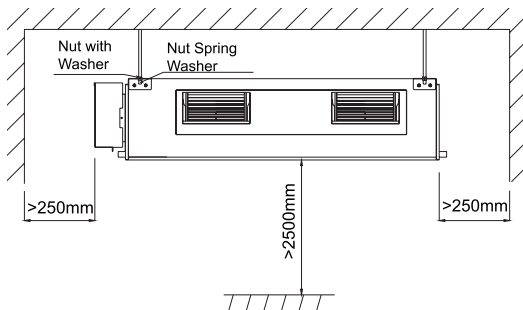

Fig.2
- (1). Install the unit at a place where is strong enough to withstand the weight of the unit.
- (2). The air inlet and outlet of the unit should never be clogged so that the airflow can reach every corner of the room.
- (3). Leave service space around the unit as required in Fig.2.